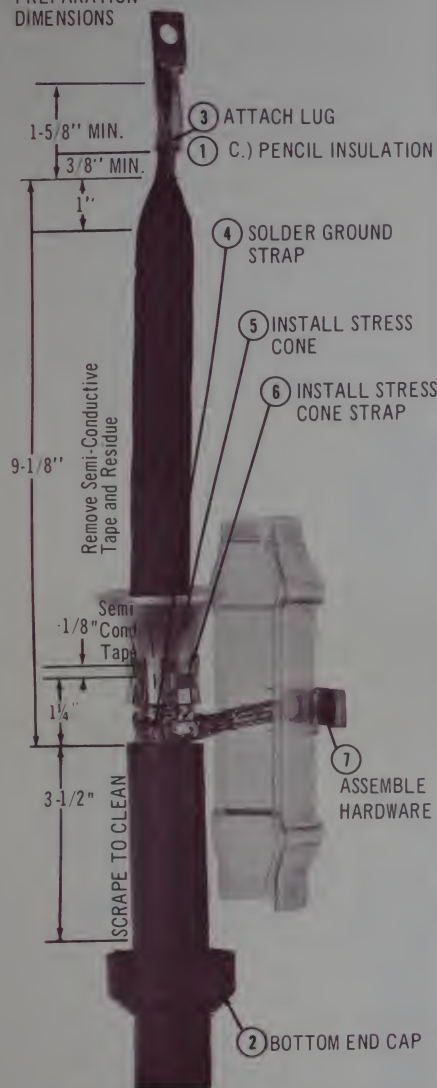

FIG. 1
- 1 CABLE PREPARATION - Use exact dimensions as shown at left of Fig. 1.
If a conductor lug or terminal pin is NOT used at the dimension shown in Fig. 1, the conductor strands must be soldered completely closed for a minimum distance of 2 inches above the cable insulation.